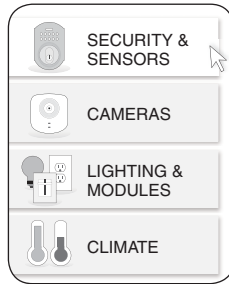

Figure 1
- Click on "Security & Sensors", then "Sensors", then "Setup Device". To change the icon from door to window (or from window to door), click "Setup Device" and choose the appropriate "Sensor Type". (See Figures 1 – 3 below.)